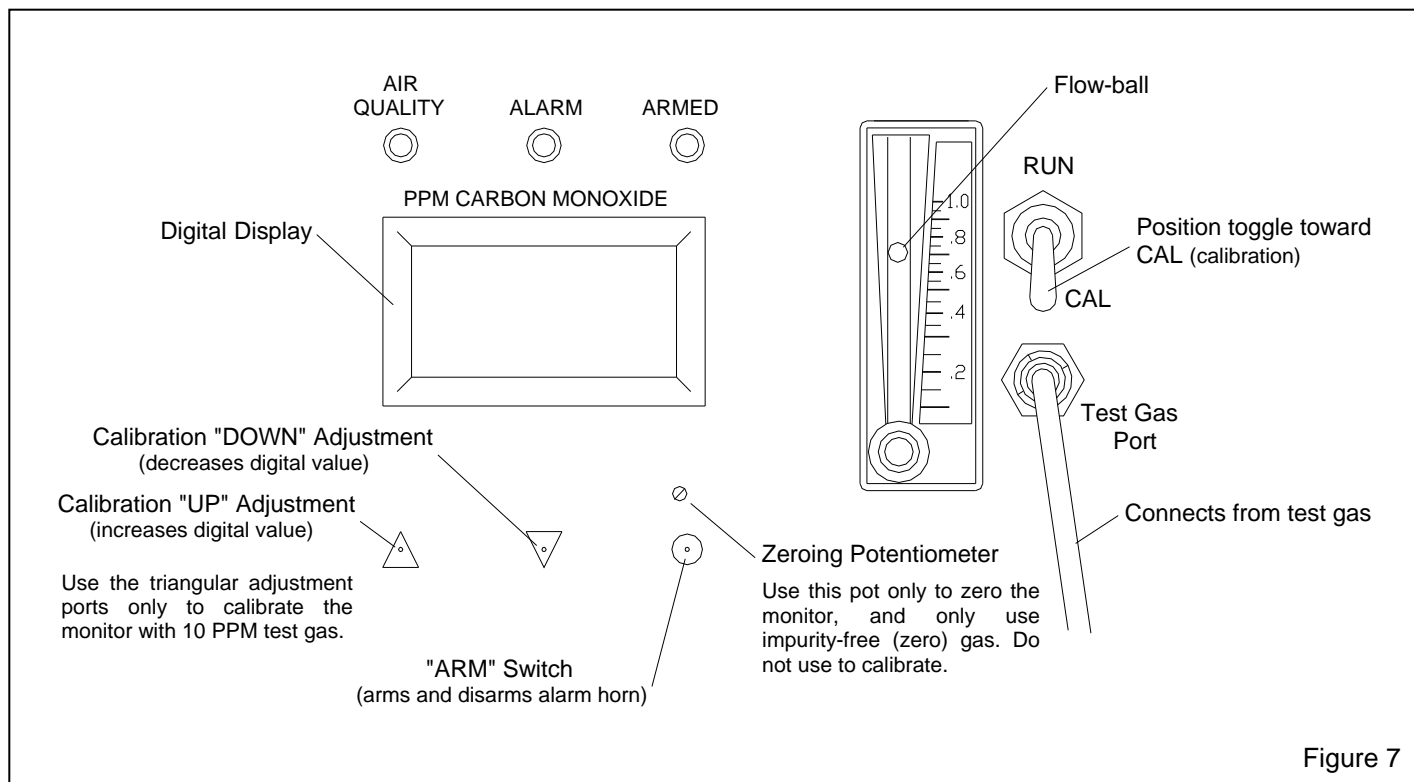

Figure 7
4.4.1 Open the instrument case cover to access the faceplate. Refer to Figure 7 for faceplate-calibration and testing callouts.
5.2 Open the instrument case cover to access the faceplate. See Figure 7 for callouts.